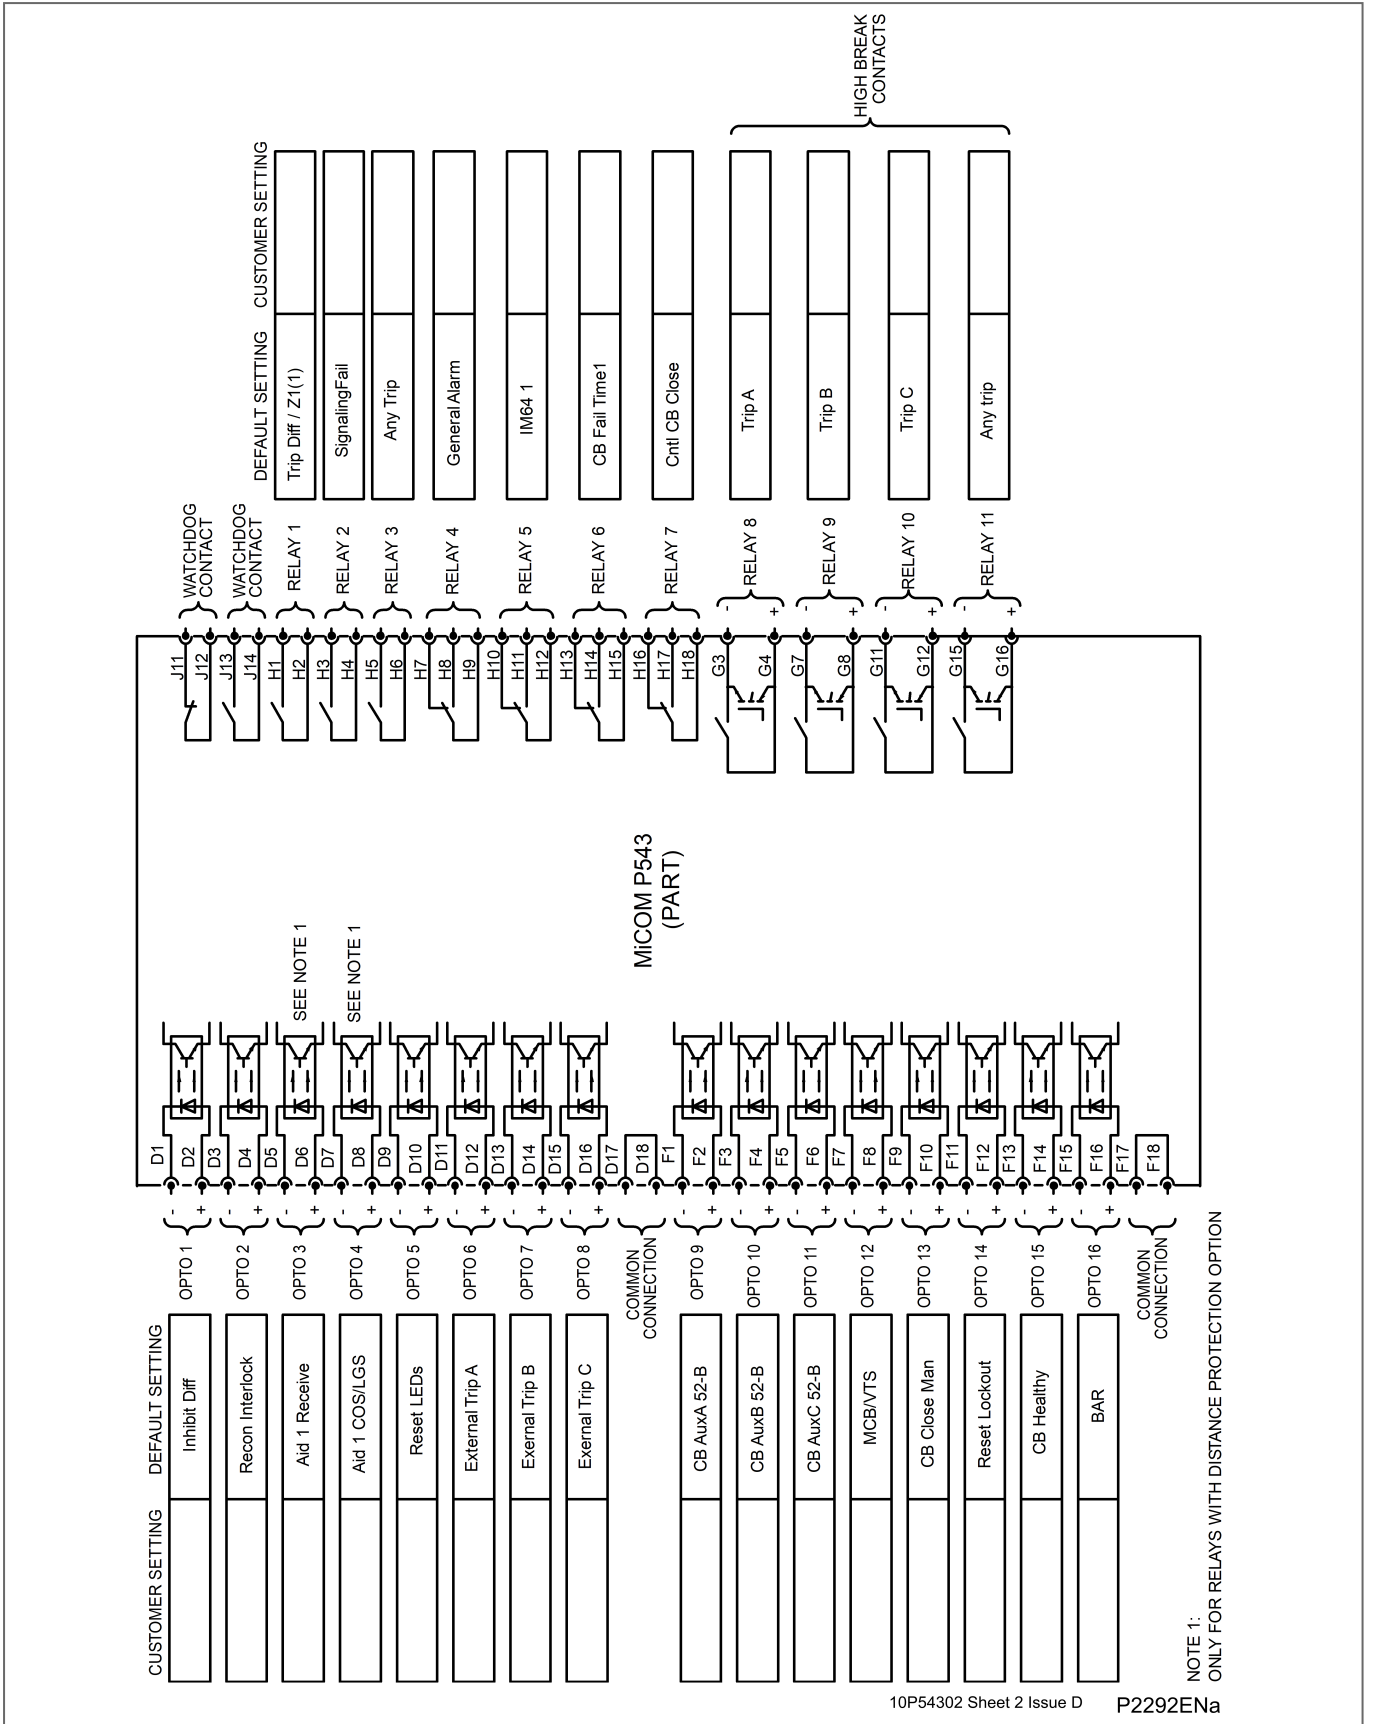

Figure 4 - P543 - 16 inputs/14 standard outputs default mapping
- Figure 4 - P543 – 16 inputs/14 standard outputs default mapping